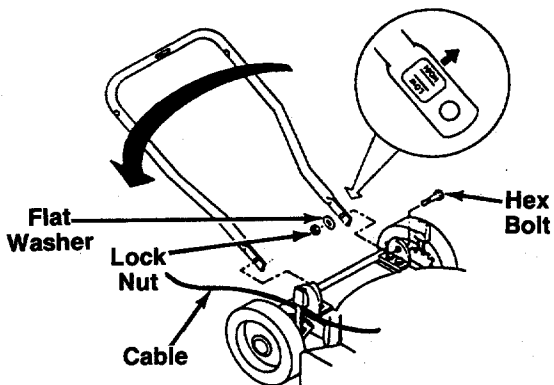

FIGURE 1.
**NOTE:** Your mower handle can be raised or lowered for your mowing comfort by assembling the lower handle in the desired position. See figure 1.
3. Loosely attach one leg of lower handle to handle bracket with  $\frac{3}{4}$ " long hex bolt,  $\frac{3}{8}$ " flat washer and hex lock nut as shown in figure 1. Do not tighten.